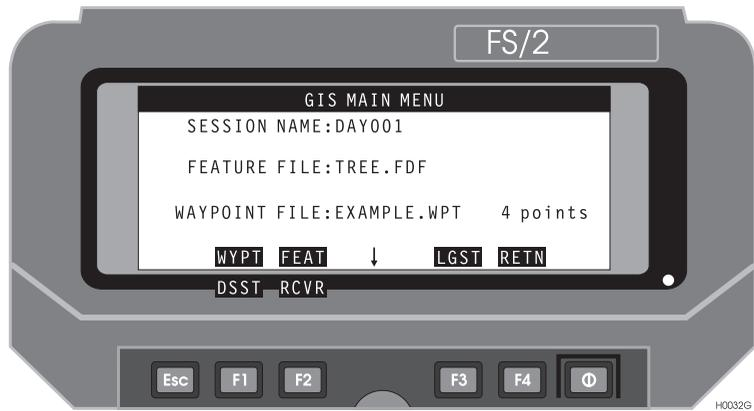

Figure 3.43: GIS Screen
1. Call the GIS main menu, Figure 3.43.